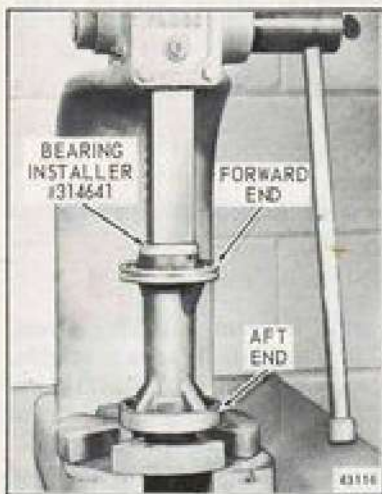
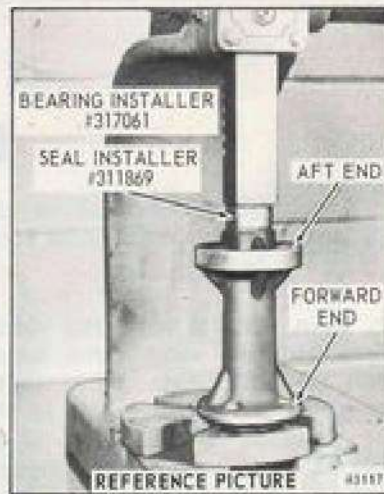

Figure 6-71. Installing Gearcase Head Forward Bearing
Figure 6-72. Installing Gearcase Head Aft Bearing and Seals
p. If removed, install new bearings in propeller shaft bearing housing. For forward bearing, use Special Tool #314641 (see Figure 6-71); for aft bearing, use Special Tool #417061. See Figure 6-72. Install oil seals back-to-back (one seal lip facing out and one seal lip facing in) using seal installer (Special Tool #311869). See Figure 6-72.